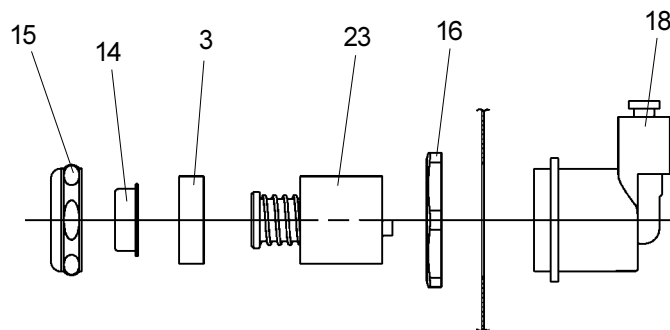

FIG. 5
7. Open service stop and operate push button to purge air from system. Check thoroughly for leaks. Check stream height from bubbler. Stream height is factory set at 45-50 PSI. If supply pressure varies greatly from this, remove items 14 and 15 and adjust screw on regulator (item 23) see figure 5. Clockwise adjustment will raise stream and CCW adjustment will lower stream height. For best adjustment stream height should be approximately 1-1/2" (38mm) above the bubbler guard. (See Fig. 9).